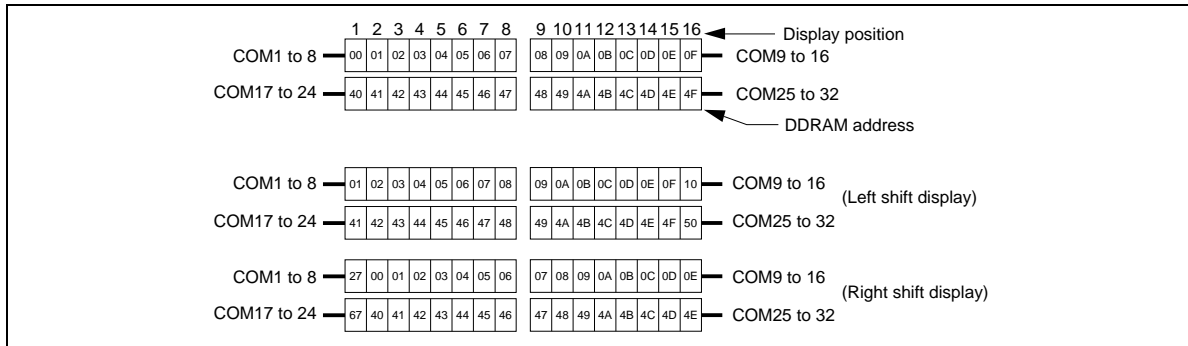
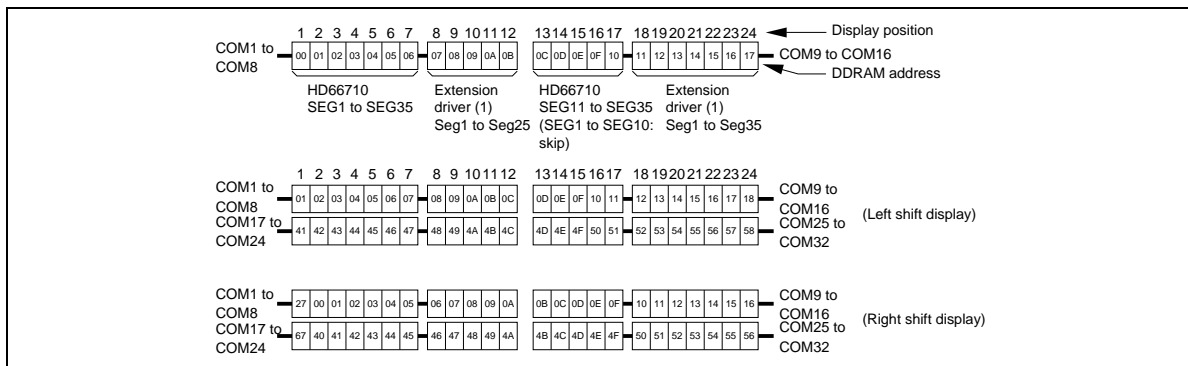

Figure 4 2-line by 16-Character Display Example
Figure 5 2-Line by 24 Character Display Example
- Case 1: The first line is displayed from COM1 to COM16, and the second line is displayed from COM17 to COM32. Care is required because the end address of the first line and the start address of the second line are not consecutive. For example, the case is shown in Figure 5 where 16×2 -line display is performed using the HD66710. When a display shift operation is performed, the DDRAM address shifts. See Figure 4.
- Case 2: Figure 5 shows the case where the EXT pin is fixed to high, the HD66710 and the 40-output extension driver are used to extend the number of display characters. In this case, the start address from COM9 to COM16 of the HD66710 is 0AH, and that from COM25 to COM32 of the HD66710 is 4AH. To display 24 characters, the addresses starting at SEG11 should be used. When a display shift operation is performed, the DDRAM address shifts. See Figure 5.